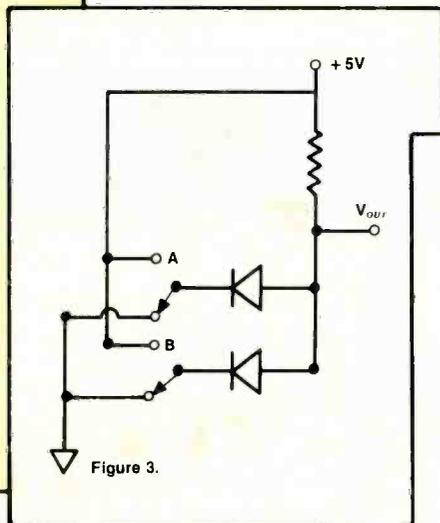

Figure 3.
- Assume that +5V represents logic 1 and 0V represents logic 0. (Disregard any voltage drop across the diodes.) The circuit of Figure 3 operates as
Circuit analysis—Figure 3 shows very little except those four voltages and waveforms that are so important for IC oscillator troubleshooting. Incoming horizontal sync at pin 16, +9.9V supply at pin 15 and horizontal near-square waves from pin 4 for the horizontal-driver transistor are all self explanatory. The sawteeth (ramps) needed for pin 1 are formed from flyback horizontal pulses by series resistance R602 and paralleling capacitor C601 (nearby components do not change the basic sawtooth shape).
unlocked horizontal frequency. Capacitors and resistors make up an RC time constant. R608 plus R606 vs. C604 plus R607 form the basic time constant. However, there is one more important factor determining frequency: the dc voltage present. This is the element that is varied to accomplish locking; the dc voltage is varied in two ways. Variable voltage from R608 hold control is the most obvious. But there is another source not shown in Figure 3. In reality, R604 connects to R603 with fast and slow time constant filters between the junction and ground. If the horizontal attempts to drift, the correction voltage from pin 1 is filtered and applied to the oscillator pin 2 where it corrects the frequency. Pin 1 appears to be the only entrance for phase-comparison sawteeth, meanwhile doing double duty as exit for the dc error-correction voltage. The horizontal sync pulses entering at pin 16 comprise the other signal for the phase-comparison circuit.